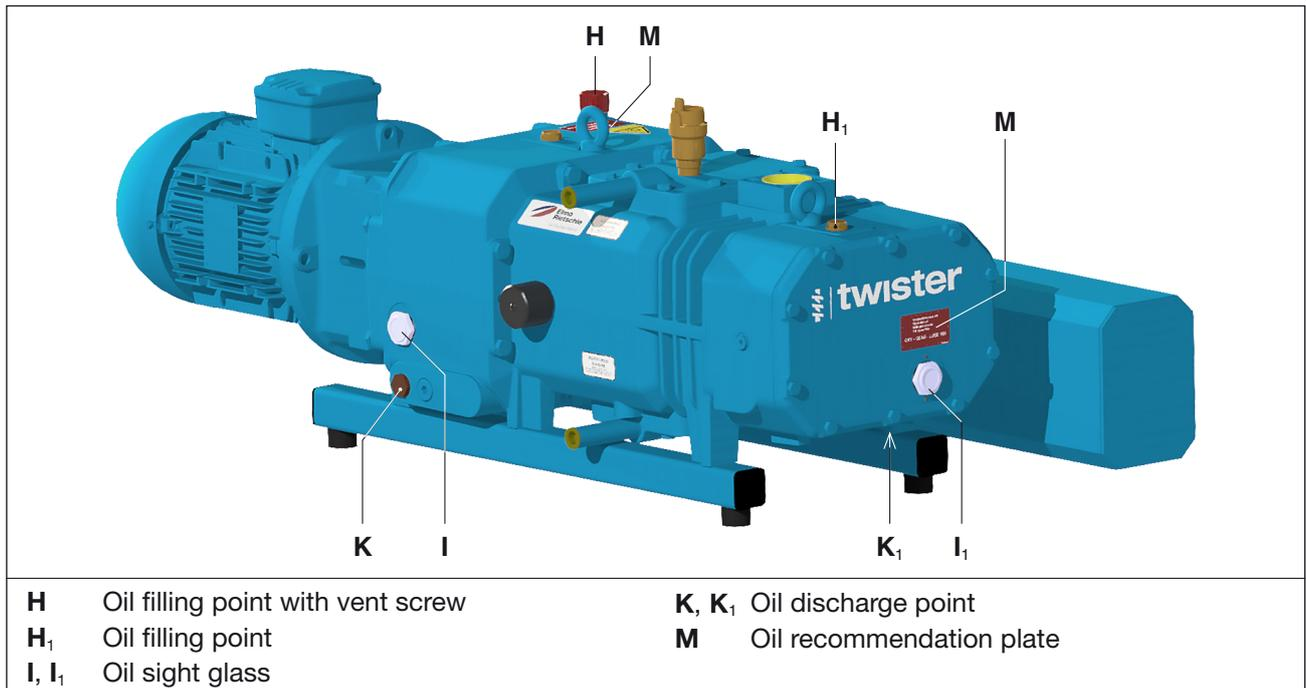

Fig. 9 Change the oil
- Check the oil level in the sight glasses (Fig. 9/I, I₁) every month.
We recommend using Elmo Rietschle oils (also see Recommended oil label (Fig. 9/M)) as operating agent. Elmo Rietschle oil types: